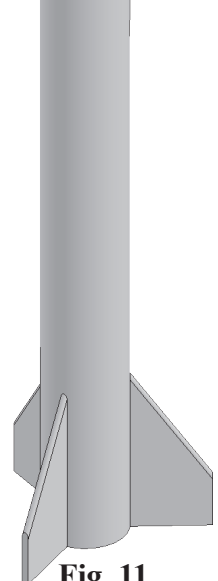

Fig. 11
Step 4. Place Nose Cone as positioned in **Fig. 11**.
Step 1. Zoom in on Nose Cone and top of Body Tube, **Fig. 11**. To **zoom**, hold down **Shift** key and drag middle mouse button (wheel). To **pan**, hold down **Ctrl** key and drag middle mouse button (wheel).